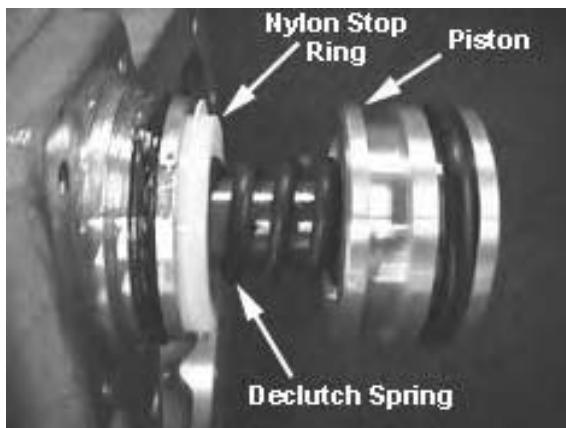

Fig. 79
37. Install the declutch shift spring, nylon stop ring, and shift piston onto shift shaft. Use Loctite #272 on threads and torque piston retaining nut to spec. See Fig. 79.